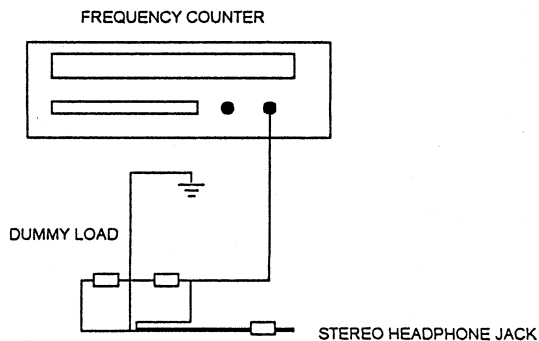

Figure 3. Tape Speed Adjustment
2. Connect a frequency counter with a 32 ohm dummy load to the stereo headphone jack. (See Figure 3.)